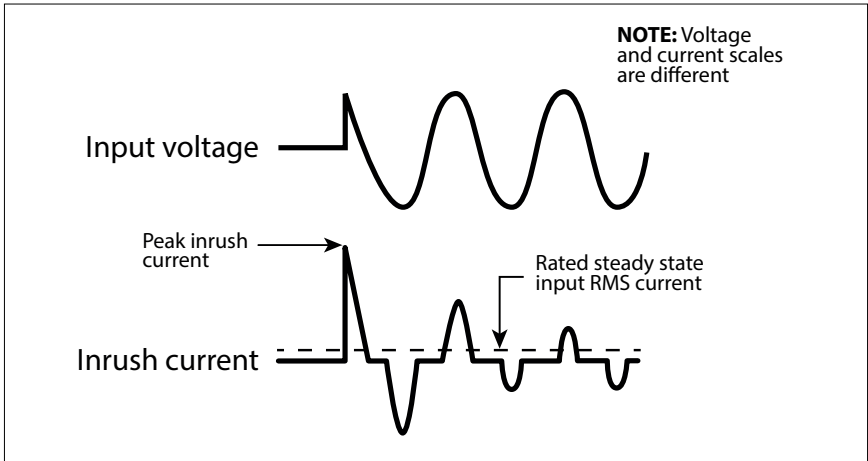

Fig 4.1: Inrush current in an SMPS
**Maximum Continuous Running AC Power Rating:** This rating may be specified as “Active Power” in Watts (W) or “Apparent Power” in Volt Amps (VA). It is normally specified in “Active Power (P)” in Watts for Resistive type of loads that have Power Factor =1. Reactive types of loads will draw higher value of “Apparent Power” that is the sum of “Active and Reactive Powers”. Thus, AC power source should be sized based on the higher “Apparent Power” Rating in (VA) for all Reactive Types of AC loads. If the AC power source is sized based on the lower “Active Power” Rating in Watts (W), the AC power source may be subjected to overload conditions when powering Reactive Type of loads.
- **AC to DC Switched Mode Power Supplies (SMPS):** This type of power supply is used as stand-alone power supply or as front end in all electronic devices powered from Utility / Grid e.g. in audio/video/ computing devices and battery chargers (Please see Section 4 for more details on SMPS). When this power supply is switched ON, its internal input side capacitors start charging resulting in very high surge of Inrush Current for a few millisecs (Please see Fig 4.1). This surge of inrush current / power may reach up to 15 times the Continuous Maximum Running Power Rating. The surge of inrush current / power will, however, be limited by the Surge Power Rating of the AC source.
Switch Mode Power Supplies (SMPS) are extensively used to convert the incoming AC power into various voltages like 3.3V, 5V, 12V, 24V etc. that are used to power various devices and circuits used in electronic equipment like battery chargers, computers, audio and video devices, radios etc. SMPS use large capacitors in their input section for filtration. When the power supply is first turned on, there is a very large inrush current drawn by the power supply as the input capacitors are charged (The capacitors act almost like a short circuit at the instant the power is turned on). The inrush current at turn-on is several to tens of times larger than the rated RMS input current and lasts for a few milliseconds. An example of the input voltage versus input current waveforms is given in Fig. 4.1. It will be seen that the initial input current pulse just after turn-on is > 15 times larger than the steady state RMS current. The inrush dissipates in around 2 or 3 cycles i.e. in around 40 to 60 milliseconds for 50 Hz sine wave.